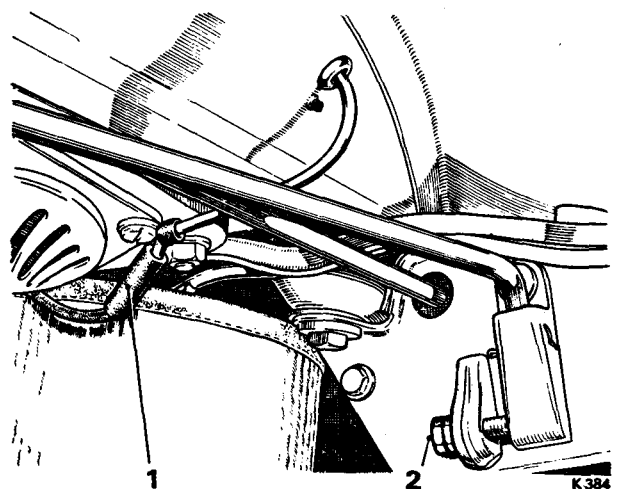

FIG. S45 POSITION OF THE REAR WINDOW DEMISTER LEAD CONNECTIONS (4-Door Saloon Cars)
13. Disconnect the two demister leads at their Lucar connections and draw them through the holes in the body into the rear compartment; both connections are accessible from within the luggage compartment, each lead being approximately 12 in. (30,48 cm.) from its respective bottom corner of the rear window (see Fig. S45).